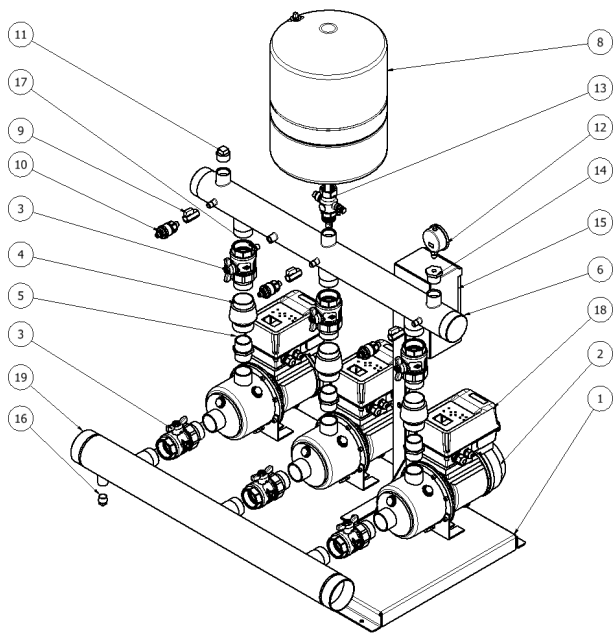

Figure 7
- Adjacent suction and delivery pipes should be fitted with earthing clamps in accordance with current regulations (Figure 7 Earth continuity connections).